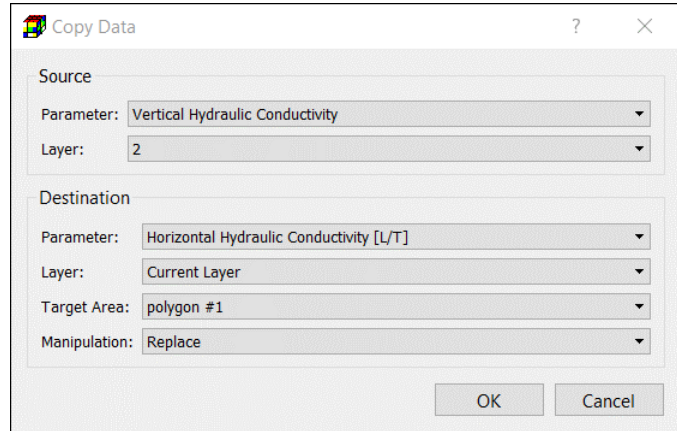

Figure 47. The Copy Data dialog box
6. **Tools > Data > Copy:** This menu item opens the Copy Data dialog box (Figure 47) that allows you to copy cell values from the selected source to a destination.